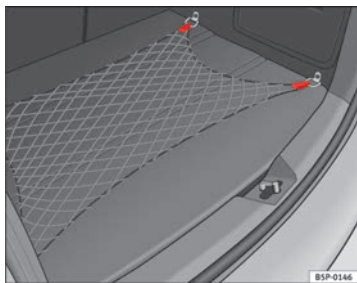

Fig. 107 Luggage compartment net
- Use the fastening rings located on the side of the luggage compartment to attach the storage net ⇒ Fig. 107.